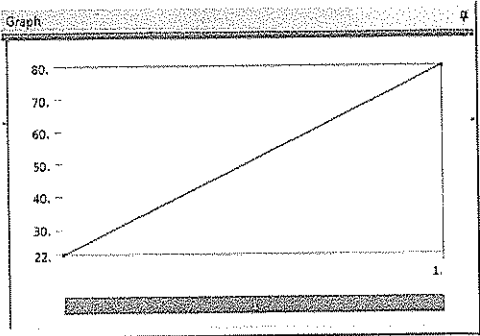

Figure 11-8 The Graph window displayed on selecting Temperature from the Steady-State Thermal node in the Tree Outline
7. Select **Temperature** from the **Steady-State Thermal** node in the Tree Outline; the **Graph** and **Tabular Data** windows are displayed, as shown in Figures 11-8 and 11-9.
Notice that in Figures 11-8 and 11-9, the total time taken for applying the Thermal boundary condition is 1 second which means the temperature value is constant over the period of 1 second.